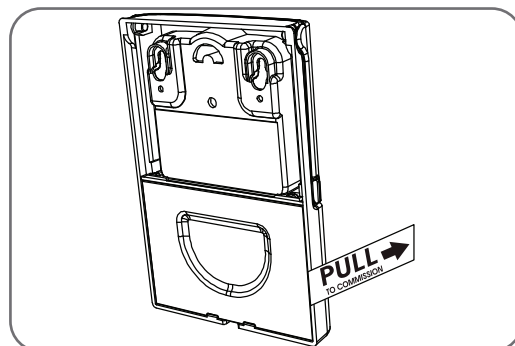

Fig.6.6.3
- Turn the wall switch over and pull the tab to commission the battery. (Fig 6.6.3)